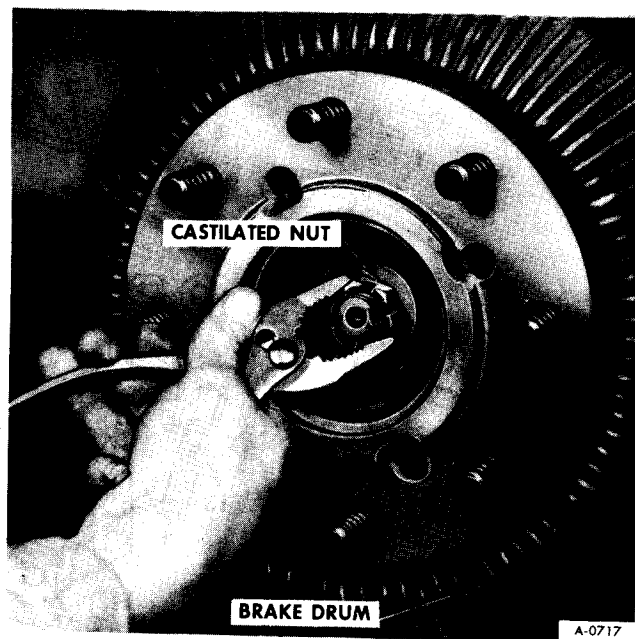

Figure 5—Removing Castillated Nut
4. Remove cotter pin and castillated nut from hub as shown in Figure 5.